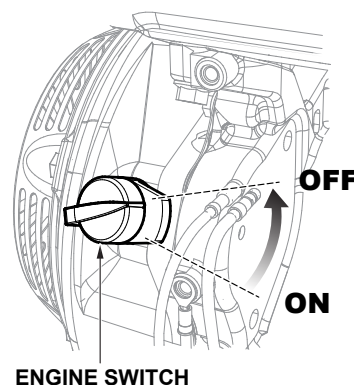

Figure 30. Engine ON/OFF Switch (OFF)
2. Turn the engine ON/OFF switch (Figure 30) to the **OFF** position.